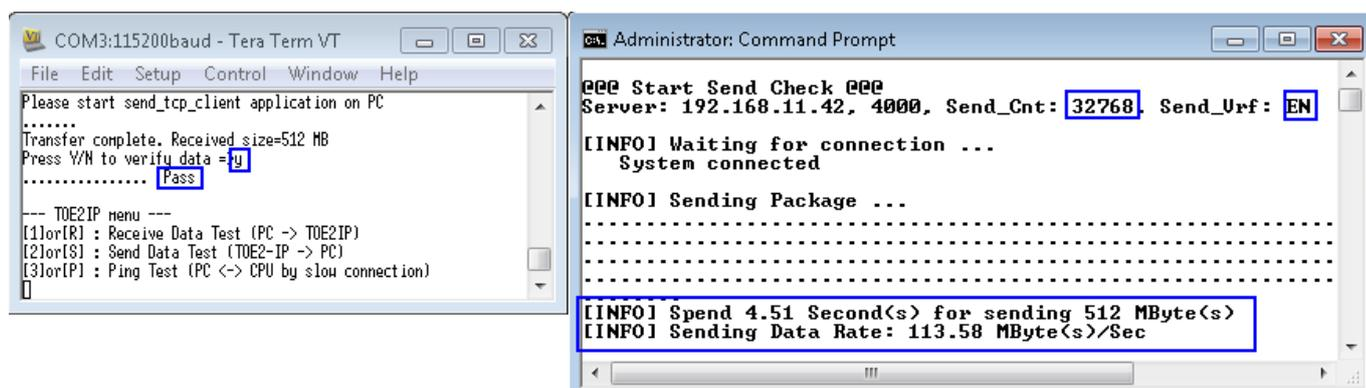
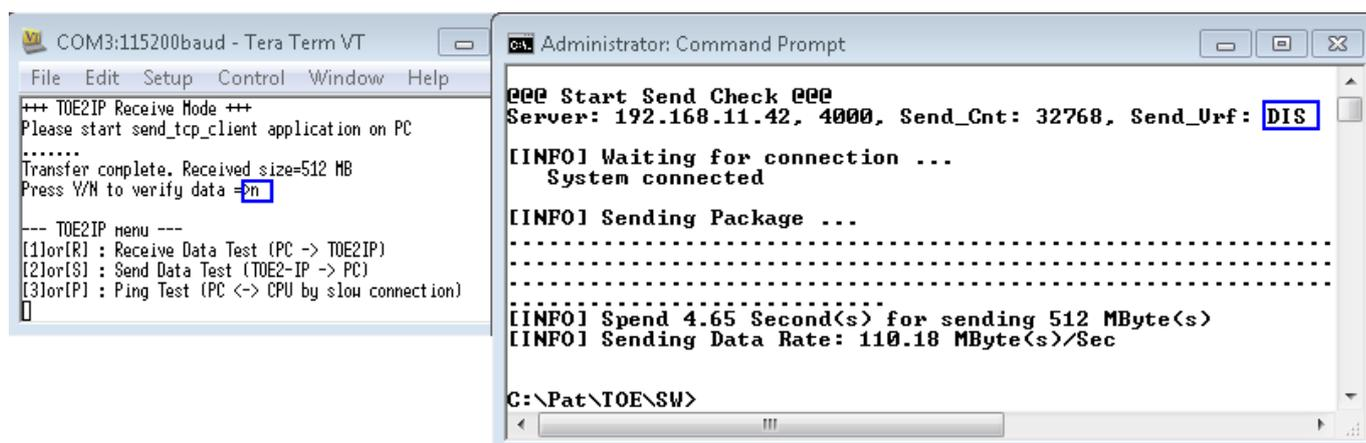

Figure 14 Test Result when enable data verification
Figure 15 Test Result when disable data verification
(4) If total transfer size is less than or equal 512 MB and transfer is completed, “Press Y/N to verify data” message will be displayed on Serial console, as shown in Figure 14. User can input ‘Y’/‘N’ to run or skip data verification on FPGA. Data verification can be selected only when user inputs test pattern mode in “send_tcp_client”=1. If “send_tcp_client” runs in mode 0 (dummy data), it needs to input ‘N’ to disable data verification on FPGA, as shown in Figure 15.